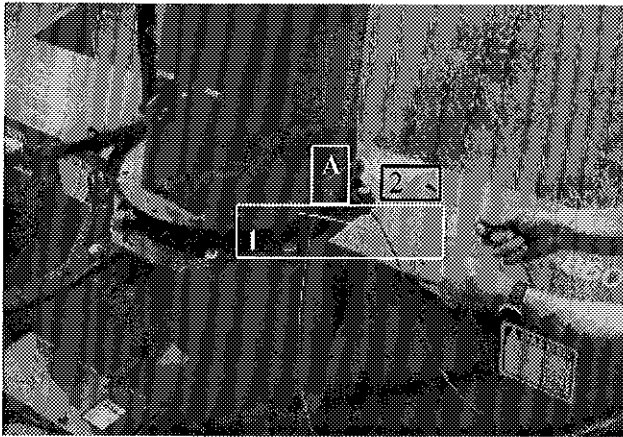

Figure 19
- 2) **Figure 19:** Hold steel cable so that end #1 will be 8" longer than end #2 and secure with cable clamp (A).